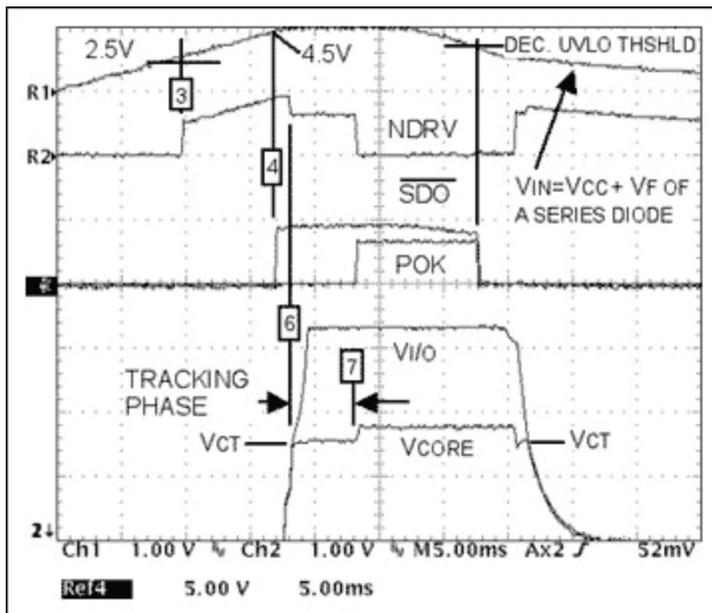

Figure 4. Startup/shutdown operation,  $V_{I/O}$  enable precedes  $V_{CORE}$  enable.
1. Startup operation is initiated when  $V_{CC}$  is applied (either ramped or stepped up from zero). Refer to **Figure 4**.
During normal operation, the controller continually monitors the CORE, I/O and CORE\_FB voltages. If  $V_{CORE}$  drops to the core regulation voltage set by R1/R2 (perhaps due to an unexpected high-current load or a short),  $NDRV$  will be driven high to re-assert the regulation mode. Refer to Figure 4.